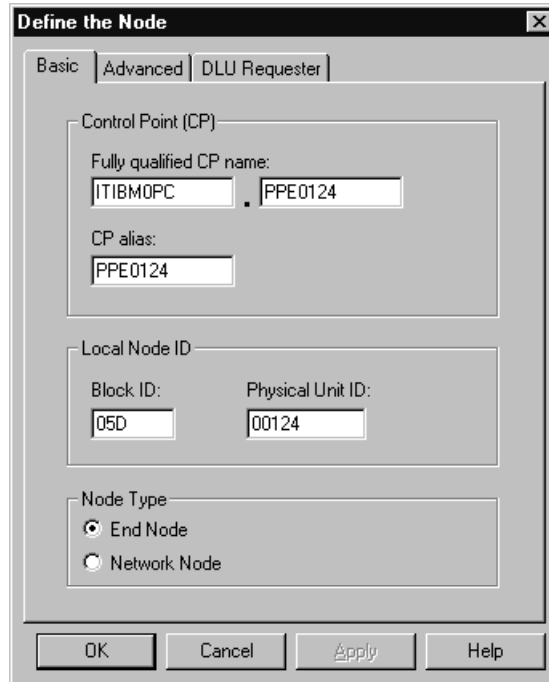

Figure 67. Define the node window: basic page
- 1 On the Basic page, in the Control Point (CP) box, use the values that are shown in Figure 67 for the following fields:
- 2 In the Local Node ID box enter the values that are shown in Figure 67 for the following fields:
- 3 In the Node Type list box select **End Node** as shown in Figure 67.